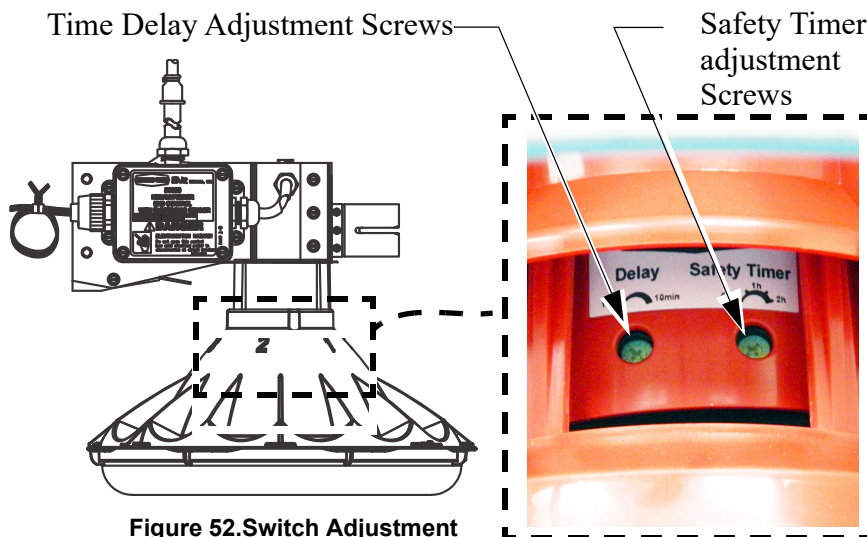

Figure 52. Switch Adjustment
See Figure 52. The Electronic Sensor's sensitivity is preset at the factory. The time delay adjustment is 1 minute to 10 minutes. *The factory setting is 1 minute.* The Sensor also comes with a Safety Timer that can be set to: Off, 1 hour, or 2 hours. The *factory setting is 2 hours.* To get access to the Adjustment Screws:
- Step 2:** Pull the Sensor Down to expose the Safety Timer and Time Delay Adjustment Screws (See Figure 52.)